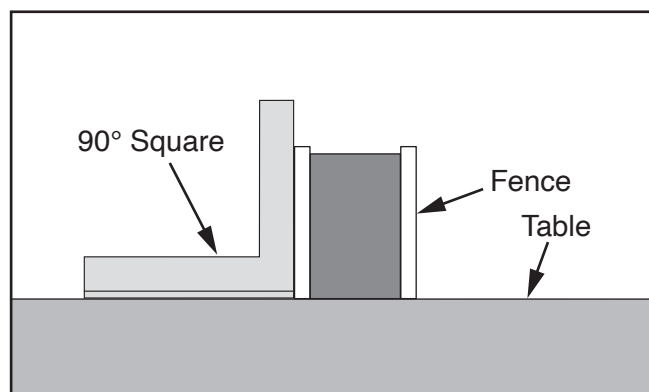

Figure 118. Example of checking fence squareness to table.
2. Place square on table against face of fence (see **Figure 118**) to check if fence is square to table.